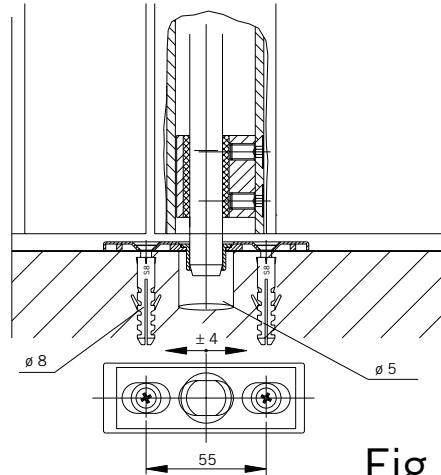

Fig. 15
10.2 Installing strike plates (Fig. 15):